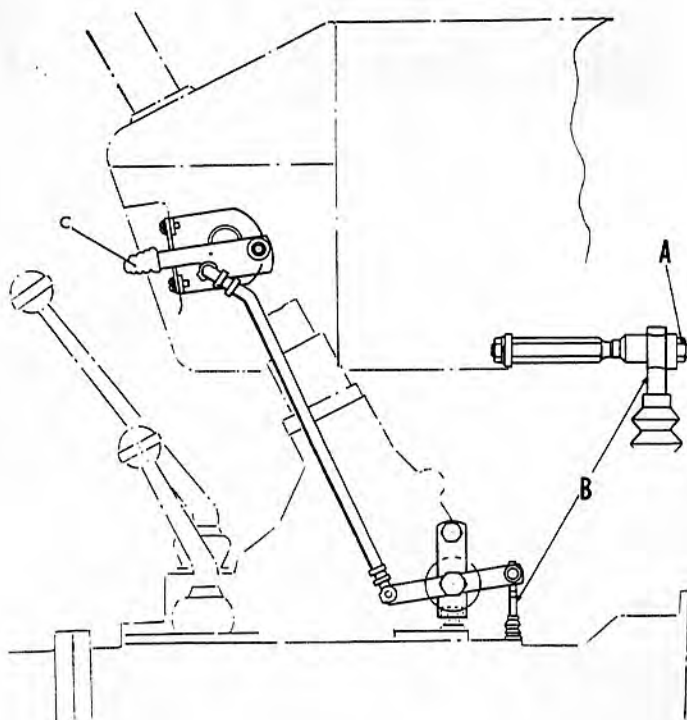

FIGURE 41. LINKAGE ADJUSTMENT
3. Flip the Multi-power shift lever C (Figure 41) up into the "high" position.
5. With the shift rod fully down, and the Multi-power shift lever in the "high" position, tighten the nut A (Figure 41) securely.
1. Ensure that the linkage is assembled as shown in Figure 41.
2. Loosen nut A (Figure 41) on the ball joint assembly which secures the lower linkage shift rod B (Figure 41).